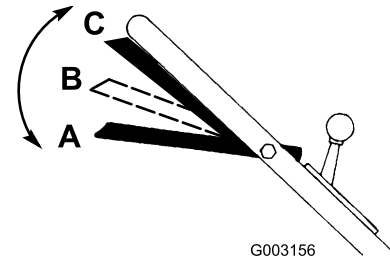

Figure 15
1. Have the blade control bar in the A position (Figure 15).
2. Slide the blade control bar to the right and raise it to the B position to engage the blade (Figure 15).
3. Squeeze the blade control bar against the handle to the C position to drive (Figure 15).